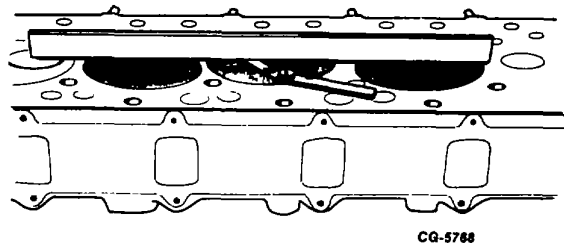

Figure 20. - Measuring Valve Recession
- d. With valve assemblies installed, measure valve recession as shown in Fig. 20.